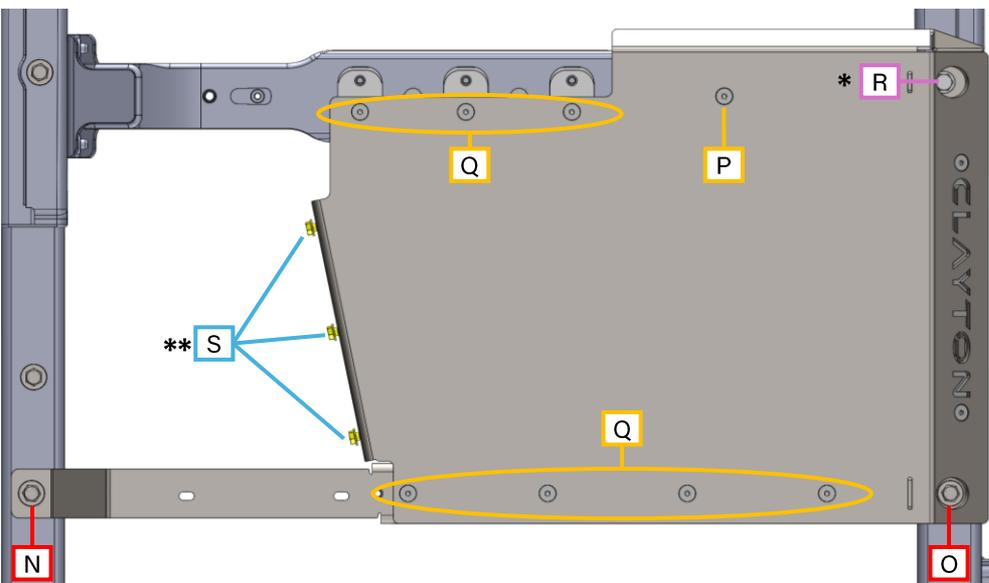

Figure 43 : bolt callouts on transfer case skid plate
36. Proceed with Table 2 while referencing Figure 43. Tighten the transfer case skid plate hardware to the following specification. **Pay attention to the \* notes at the bottom of the page.**